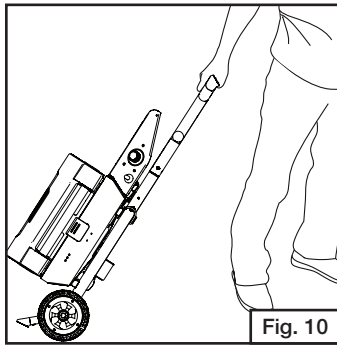

Fig. 10
- Once handle is locked in position, the grill can easily be moved to any location in your campsite or backyard by grasping the towing handle. (Fig. 10)